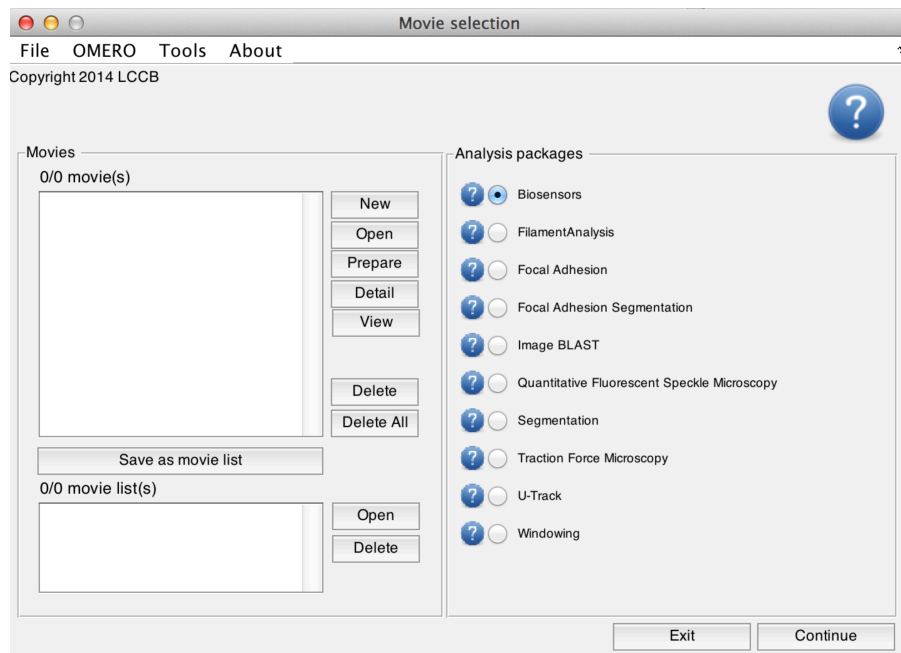

Figure 1. Movie selection window, launched by a command 'MovieSelectorGUI' or "tfmPackageGUI".
1. From the Matlab command prompt, launch the movie selector interface by typing **movieSelectorGUI** or **tfmPackageGUI**. *This command will bring up the movie selection panel (Figure 1). The left panel displays all of the movies to be processed. The buttons next to the list allow the user to modify the list by creating, opening, and removing movies. The right panel displays the available software packages that can be used to process the movies.*
8. In the movie selection panel (**Figure 1 left**), load the new movie by clicking **Open**. Select the MAT file saved when creating the movie database. *If the movie database file has been relocated on the disk, the software will ask for relocation of all its components by comparing the new path of the movie database file to the old path.*